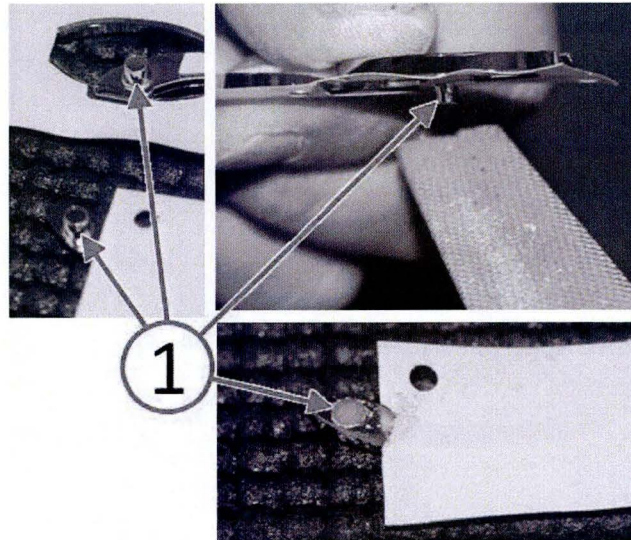

Fig. 5 Remove Short Locator Studs
- Being very careful to not damage the new "500" name plate, use a file or equivalent tool to remove the single short name plate locator stud (1) from each half of the new "500" name plate (Fig. 5).